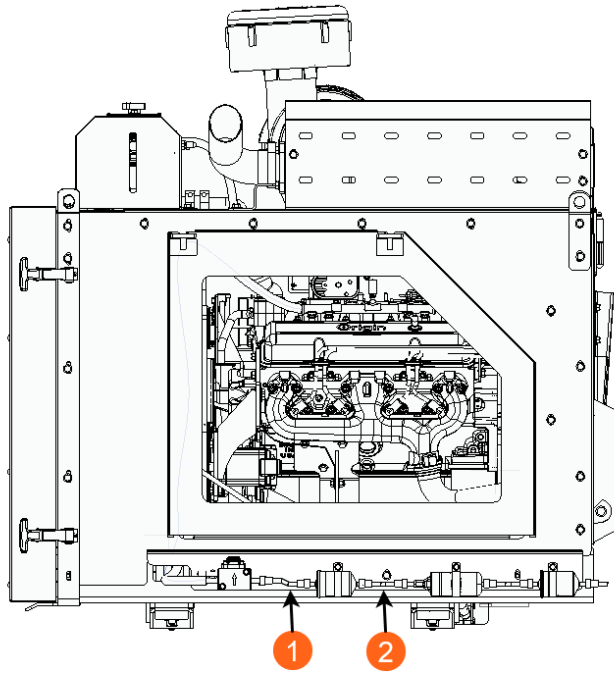

Figure 5
- 7) Using the quick disconnects, remove the fuel lines from the fuel pump and fuel filter. See Figure 5.